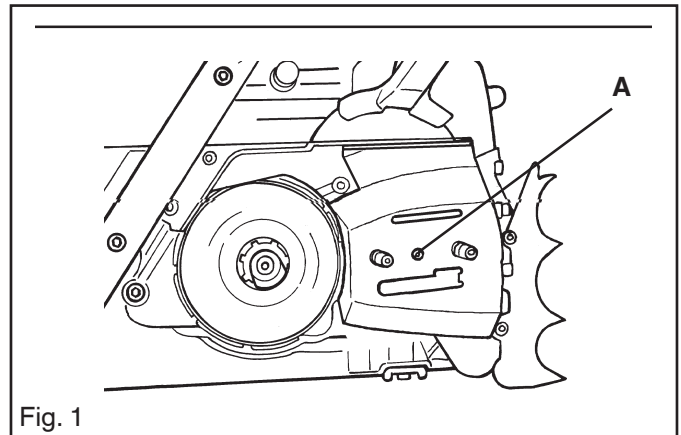

Fig. 1
2. Remove the chain guide plate by unscrewing the bolt (A). See fig. 1.